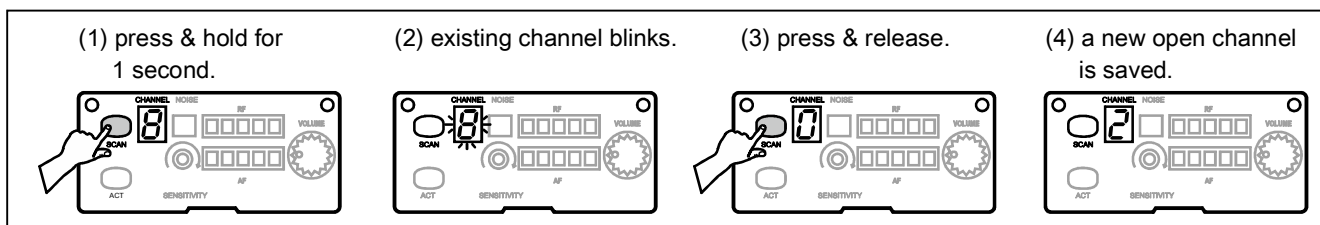

Fig. 6
- (A) Reduce all volume levels to minimum. Once powered on, adjust master volume levels to maximum.
- (B) Power on the receiver module and reduce volume levels **A1** to minimum.
- (C) RF signal indicators **A9** are lit once receiver is powered on. Adjust receiver volume to desired levels. Audio signal indicators **A2** expands and contracts, pending how loud the input sound.
- (D) Perform the channel synchronization between the receiver and transmitter by power on the transmitter microphone and pressing the Channel sync ACT button and bring the ACT windows within 30cm of each other. Once channel is synchronized successfully, the RF signal indicators **A9** are lit and Audio signal indicators **A2** expands and contracts, pending how loud the input sound.
- (A) Scan Automatically for a Non-interference Receiver Channel: Press and hold SCAN button **A6** to perform a channel scan. Existing channel **A7** blinks to denote it is ready to accept parameter changes. During blinking, press and release SCAN button to scan and stop for an open channel. This new channel is now saved. If SCAN button is not pressed within six blinks, it stops blinking and reverts back to the existing channel, Fig. 6.